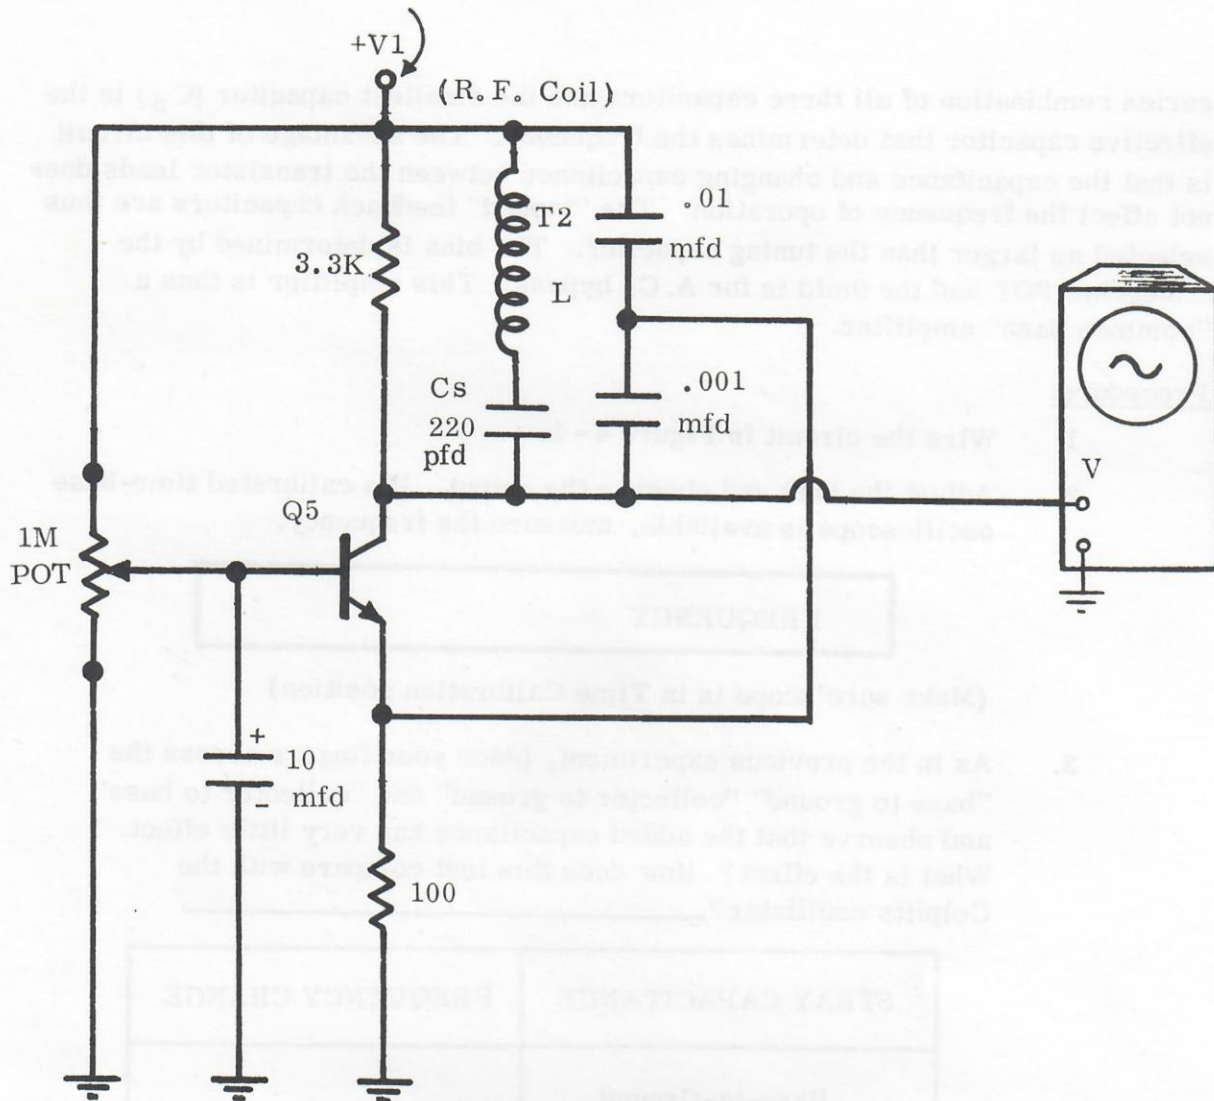

Figure 4 - 1 Clapp Oscillator
1. Wire the circuit in Figure 4 - 1.